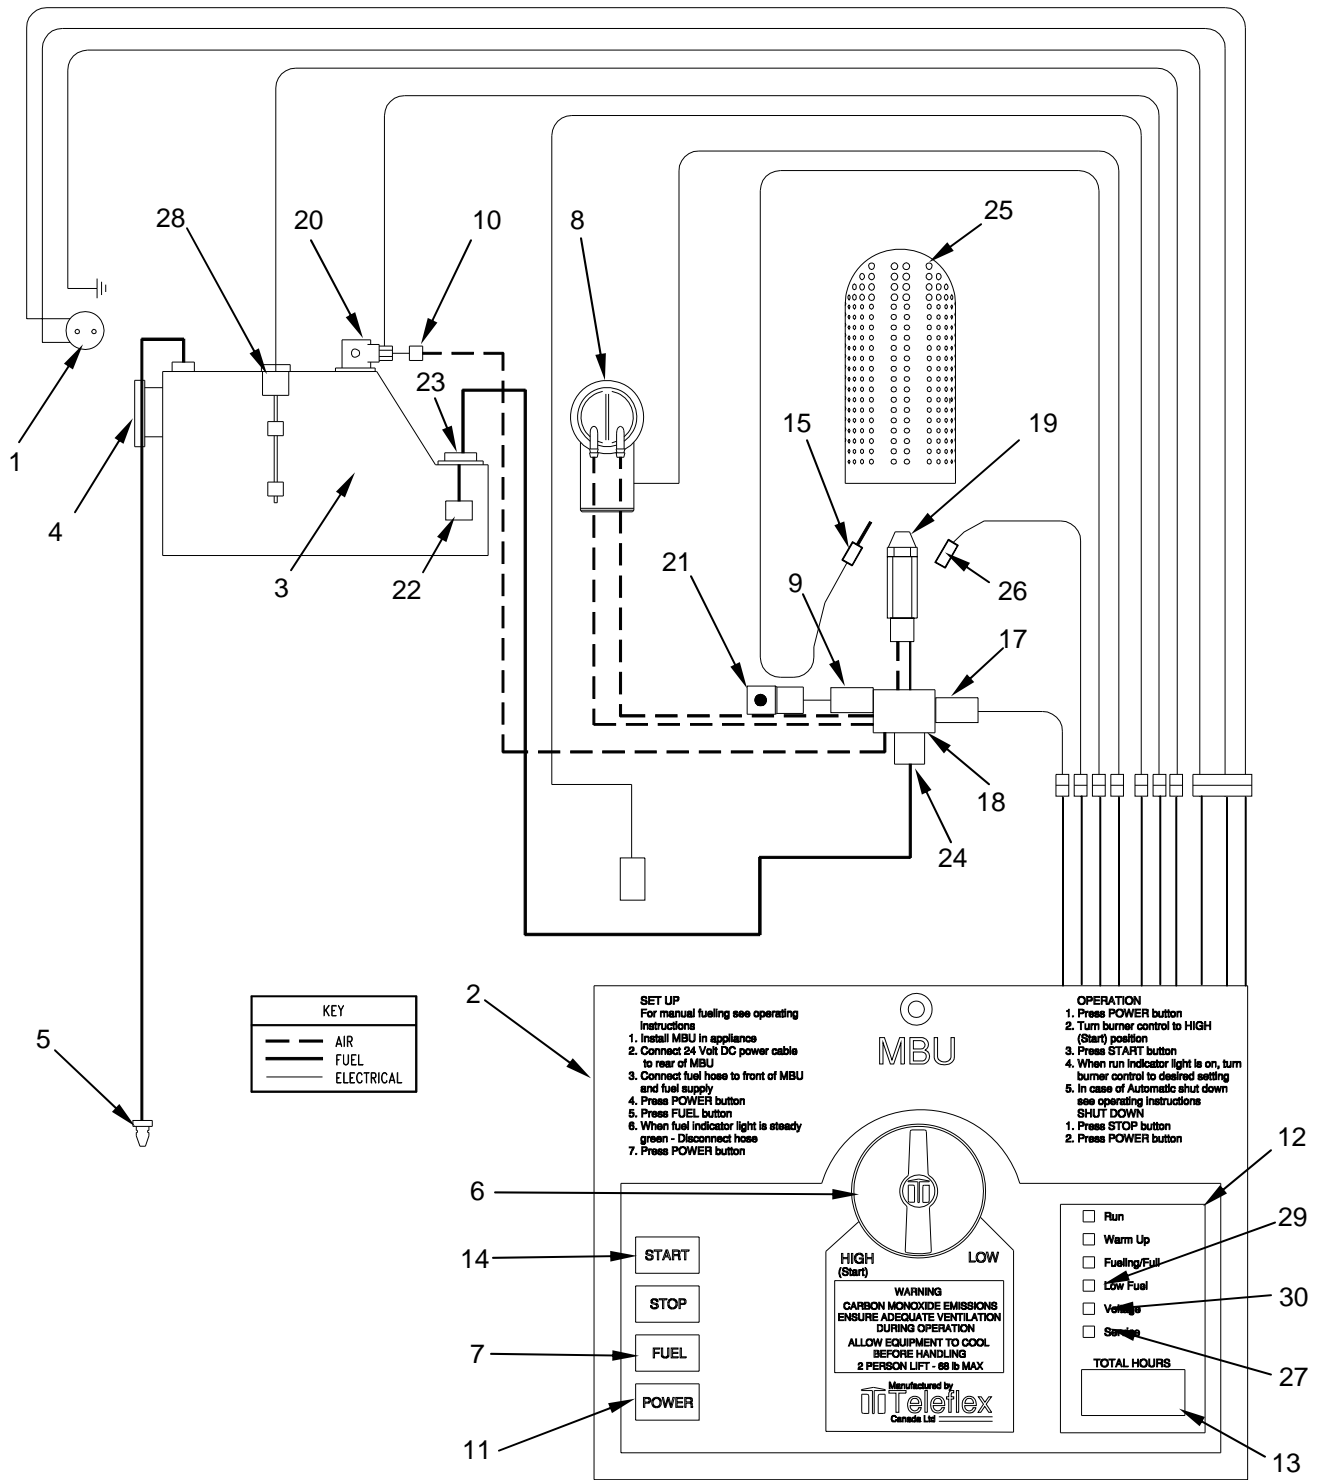

Figure 1. MBU Operational Schematic.
Adjust the burner control (Figure 1, Item 6) as necessary.
- Loss of combustion. If the flame sensor (Figure 1, Item 26) fails to verify combustion, the MBU shuts down immediately and the red SERVICE indicator (Figure 1, Item 27) lights.
- Low fuel. When the fuel tank level float switch (Figure 1, Item 28) reaches a minimum set point, a 30-minute shutdown timer is activated. Control Panel indicators will light as follows: LOW FUEL indicator (Figure 1, Item 29) blinks green for 15 minutes, changes to blinking amber for 7.5 minutes, and then changes to blinking red for 7.5 minutes. The indicator (Figure 1, Item 29) lights steady red at shutdown.
- Voltage. If input voltage increases to 29.5VDC or greater or decreases to 22VDC or less, the MBU will shut down, and the VOLTAGE indicator (Figure 1, Item 30) will light red.
- Electrical Short. An internal circuit breaker is located in the controller (Figure 1, Item 2). The nominal rating of the breaker is 15 amps, depending on ambient temperature. Once the breaker has tripped, it can be reset by turning the power off and eliminating the cause of the short circuit. It will then reset itself in 30 - 60 seconds, depending on ambient temperature. As breakers are typically thermal devices, the point at which they open and close is dependent on the temperature of the internal components. The breaker is connected in series with the POWER Button.